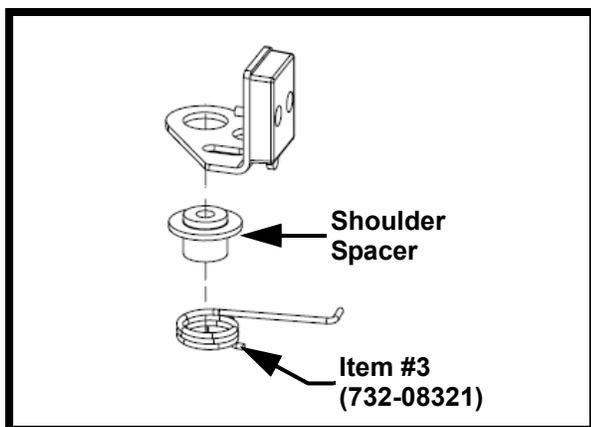

FIGURE 8
19. Install the shoulder spacer over Item #3 (732-08321) Torsion Spring shown in Figure 8.
20. Install the deck brake assembly over the shoulder spacer. Figure 8.